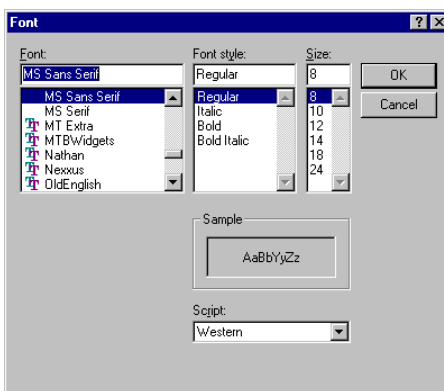

Figure 2-8. Font Dialog
1. Choose **View** ⇒ **Font** to open the Font dialog (Figure 2-8).